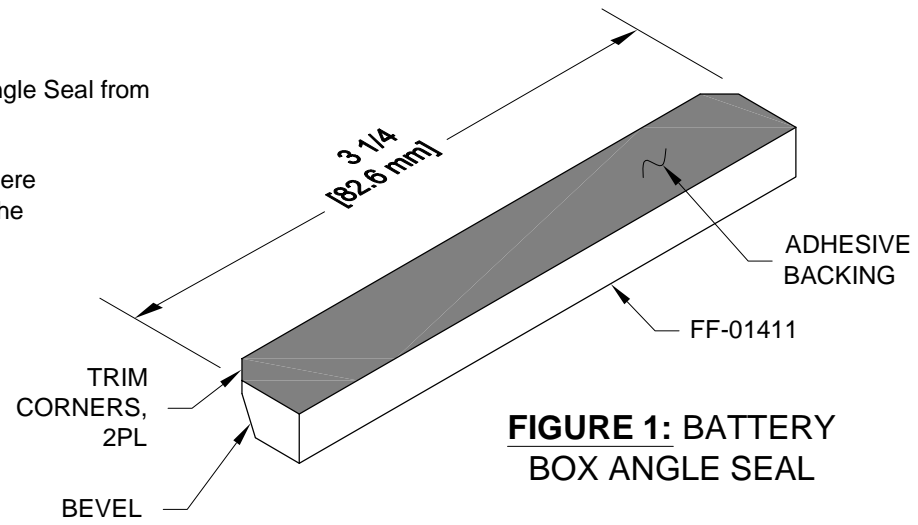

FIGURE 1: BATTERY BOX ANGLE SEAL
Step 1: Fabricate the FF-01411 Battery Box Angle Seal from VA-204 (foam) material as shown in Figure 1.